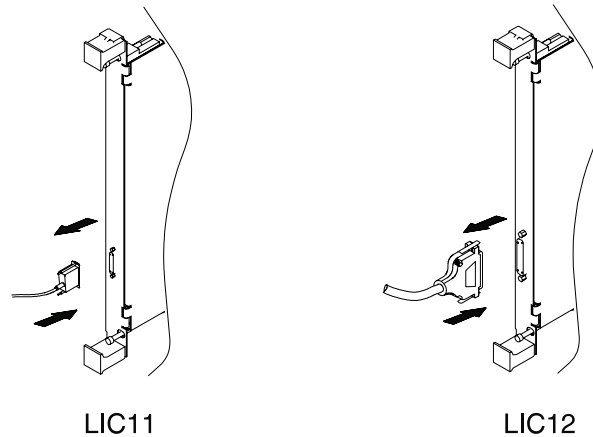

Figure C-7. LIC11, LIC12, and Their Cables
Step 2 Push in the connector and tighten the retaining screws (see Figure C-7).